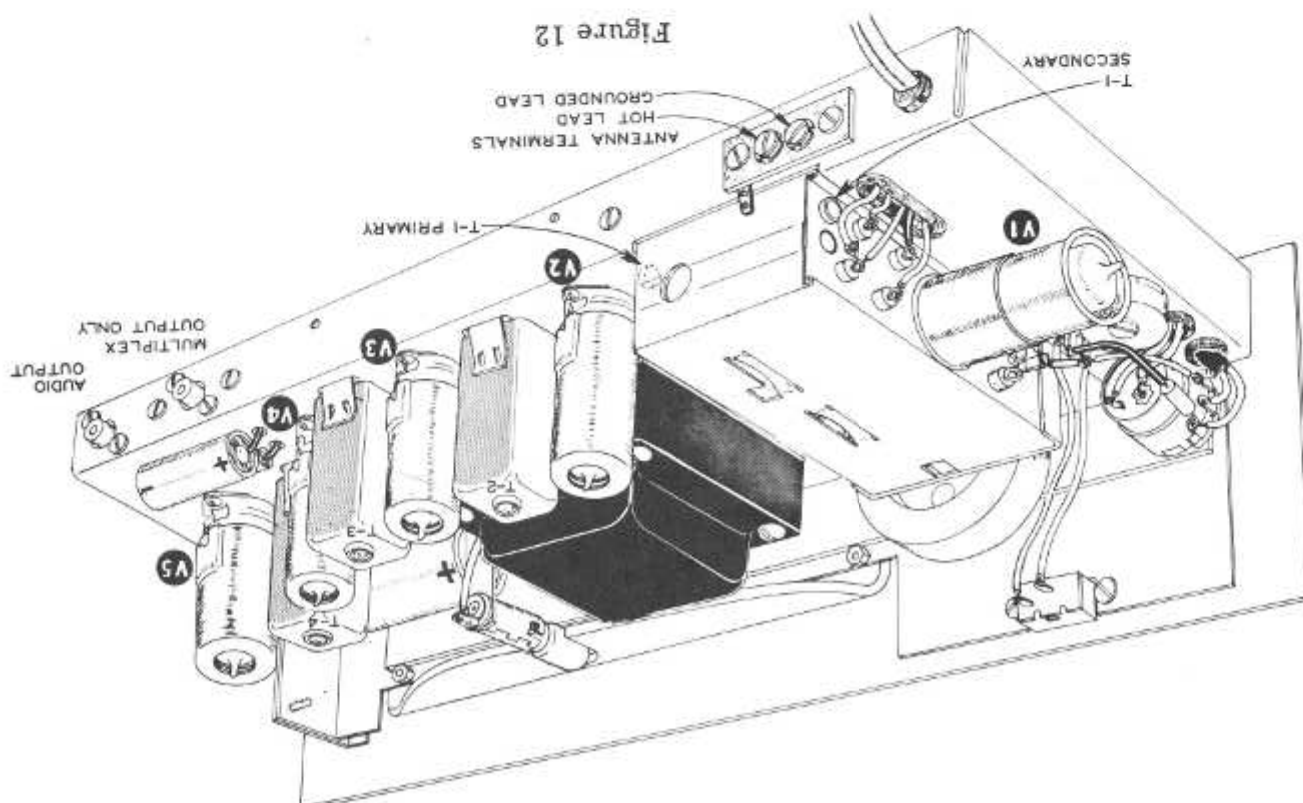

Figure 12
- () Refer to Figure 12 and insert the #47 pilot lamp in the pilot lamp socket. The element of the lamp should be just about centered in this opening for maximum light conduction into the dial window. If it is not centered, loosen the mounting screw for the pilot lamp socket and slide the bracket forward or back, as necessary. The pilot lamp bracket can also be bent slightly
With the alignment tool furnished, adjust only the secondary of T₁ for the loudest and clearest signal. This is the slug adjustment at the rear of the tuning unit (Figure 12), near the wired connections. Do not touch any other IF adjustment unless you should go through a regular alignment procedure.